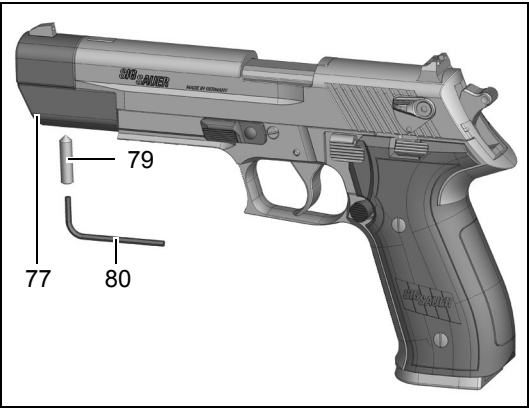

Fig. 8
- 1. Release the threaded pin **79** using the allen wrench **80** and remove it (see Fig. 8).